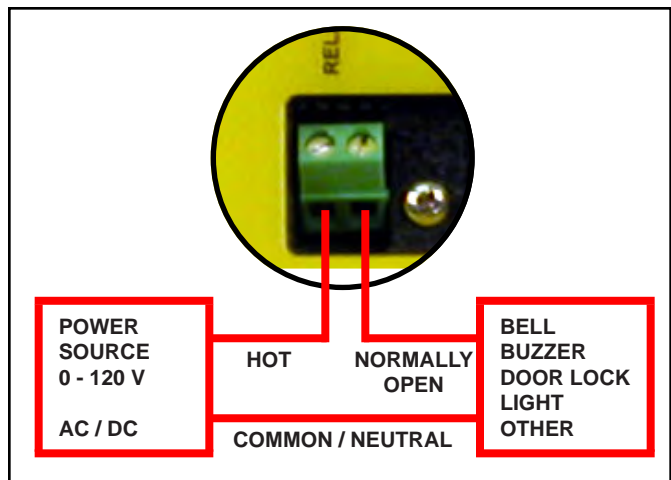

Figure 4. Relay installation
2. The Relay Terminal connections can be made on the back of the SmartLog X3 (see Figure 4). They can be used to control doors, gates, etc. The relay terminal is limited to a maximum of 1A @ 30VDC or .5A @ 125VAC.